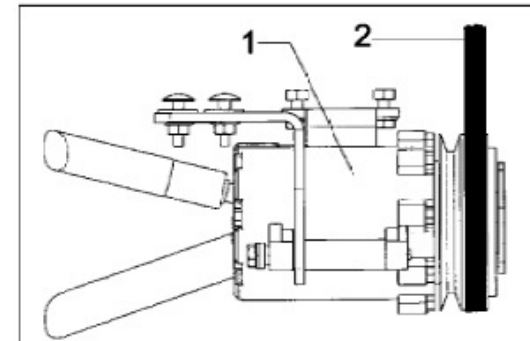

Fig. 44 Air conditioning unit with clutch Y14
Check the V-belt of the air conditioning unit (Fig. 44/1) after every 250 operation hours as follows:
4. Check V-belt (Fig. 44/2) for condition and tension and re-adjust or replace if required.